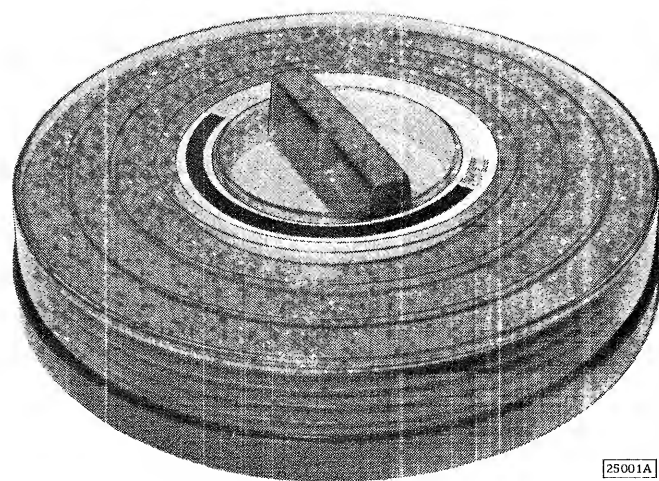

Figure 2. IBM 1316 Disk Pack
2. IBM 1316 Disk Pack—six stacked disks providing 10 recording surfaces mounted on a central hub (Figure 2).